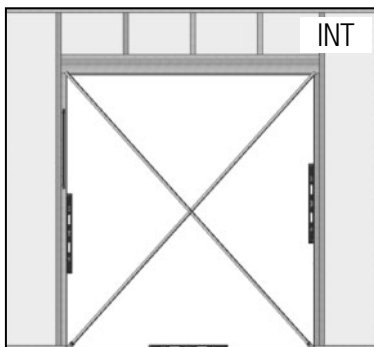

FIG. 2
- B) Verify the rough opening is plumb, level and square. (Fig. 2)
- C) Take diagonal measurements to check for square. (Fig. 2)